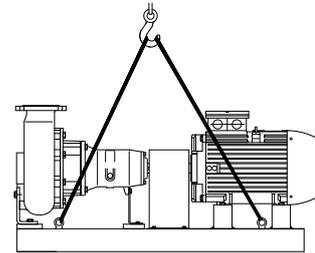

Fig.1
**SERIE KS-KB:** This series of machine has to be installed with positive head in suctioning except in specific cases agreed with the builder for pumps with little barrel starting and well dimensioned. Lift and transport the pump-motor unit as indicated in fig.1. Place the pump as close as possible to the suction source. Normally, the pump motor unit must be protected from the weather and exposition to the sun's rays. Make sure motor ventilation is not impeded and provide access around the unit for inspection and maintenance during operation.